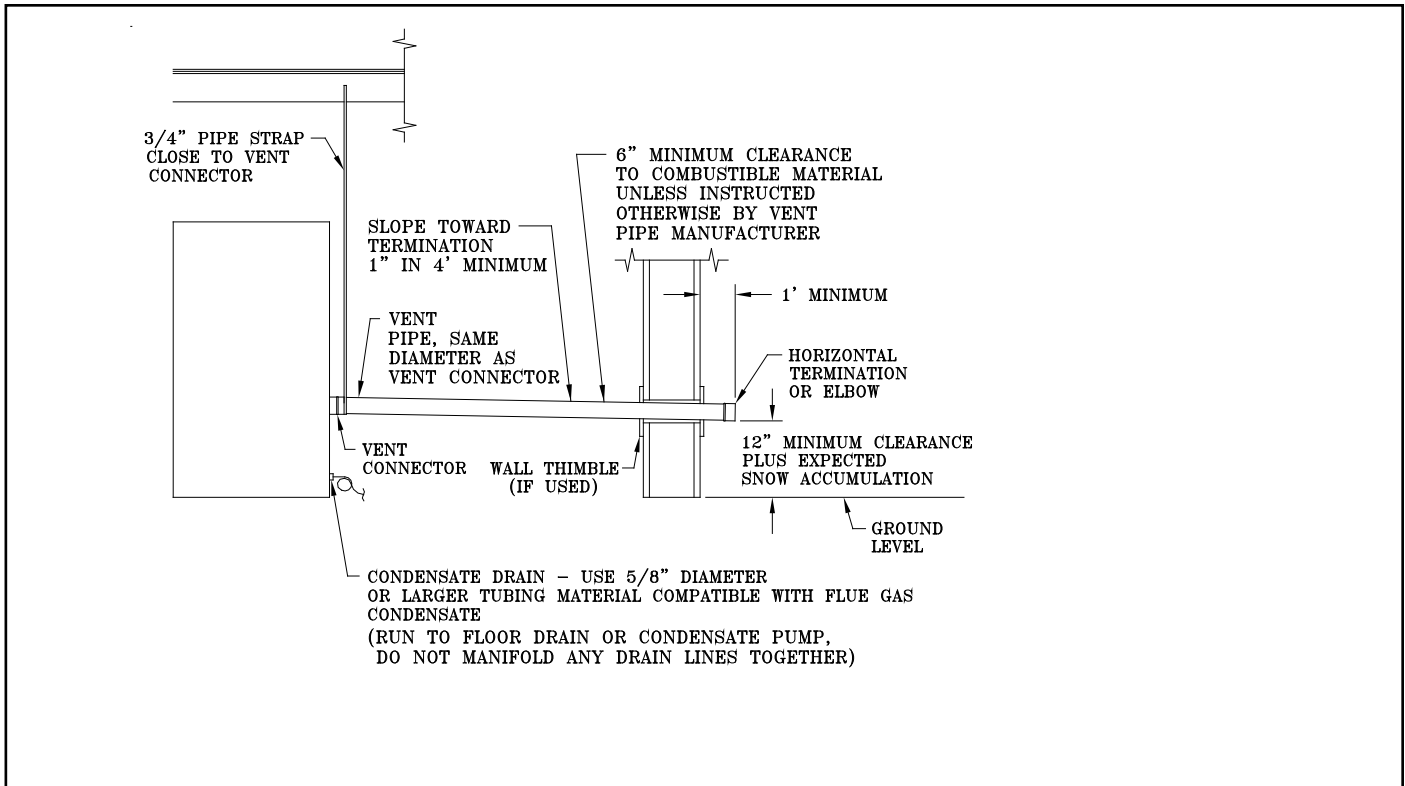

Figure 2: Sidewall Positive Pressure Venting
5. See Figures 2, 3 and 4 for examples of positive pressure venting arrangements.